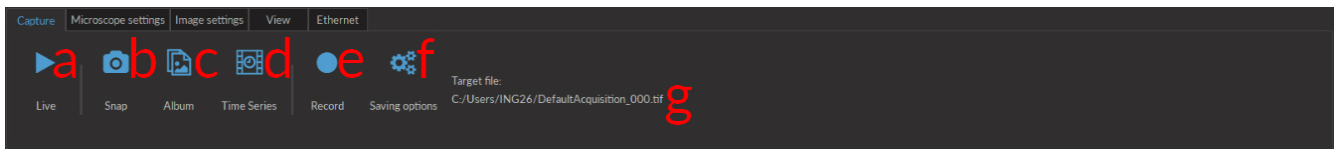
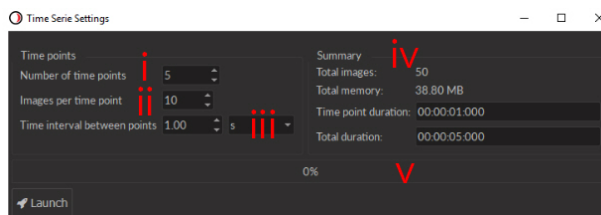

Figure 3.49: Capture Tab
Figure 3.50: Time Series Window
- a) The **Live** button (Fig. 3.49), when pressed, displays images from the microscope. These images are not saved.
- b) The **Snap** button (Fig. 3.49), when pressed, takes a snapshot of the current image and saves it in the requested directory with the desired name (**Saving Options**) as a single image.
- c) The **Album** button (Fig. 3.49), when pressed, acquires a snapshot and adds it to an album stack. The whole stack can be saved as one image stack.
- d) The **Record** button (Fig. 3.49), when pressed, acquires a continuous image stream, until **Stop** is pressed, and saves it in the requested directory with the desired name (**Saving Options**) as one image stack.
- e) The **Time Series** button (Fig. 3.49), when pressed, opens the time series interface (Fig. 3.50).
- i. The **Number of time points** (Fig. 3.50) defines the number of moments when a set of images will be recorded.
- ii. The **Images per time point** (Fig. 3.50) defines the number of images taken in each set.
- iii. The **Time interval between points** (Fig. 3.50), defined in ms, s and min, defines the duration between each image set. This duration always has a minimum value of **Exposure time x Images per time point**.
- iv. The **Summary** box (Fig. 3.50) shows many values related to the time series, including the **Total images** recorded, the **Total memory** occupied by the full series, the **Time point duration** and the **Total duration** of the full series.
- v. The **Progression bar** (Fig. 3.50) displays the progress (in %) of the time series.